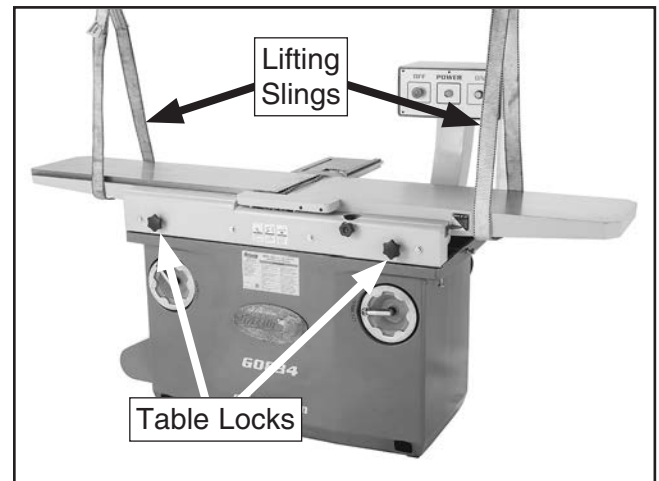

Figure 13. Lifting slings properly positioned.
3. Attach lifting slings to infeed and outfeed tables, as shown in **Figure 13**. Position slings as close to base as possible and tighten table locks to prevent damaging tables.